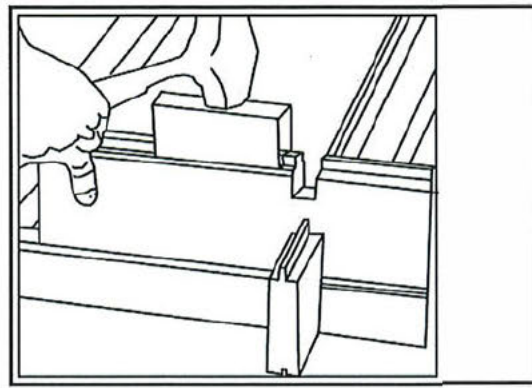

FIG 4
3. Each log needs to be tapped home to log below using timber block supplied and a rubber mallet (fig4).